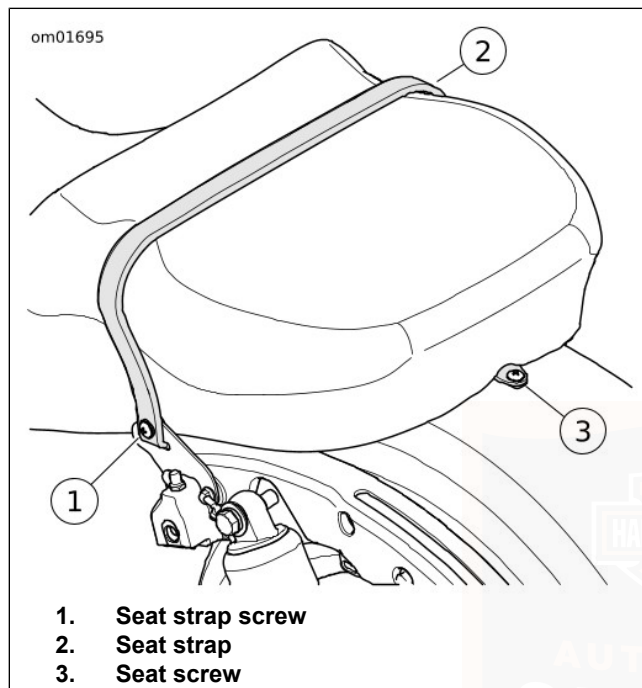

Figure 101. Seat Strap Screw
3. See Figure 101. Remove screw to release seat strap from bracket.
2. See Figure 101. Secure seat bracket to rear fender with screw. Tighten.
4. See Figure 101. Insert strap in slot on seat strap bracket.